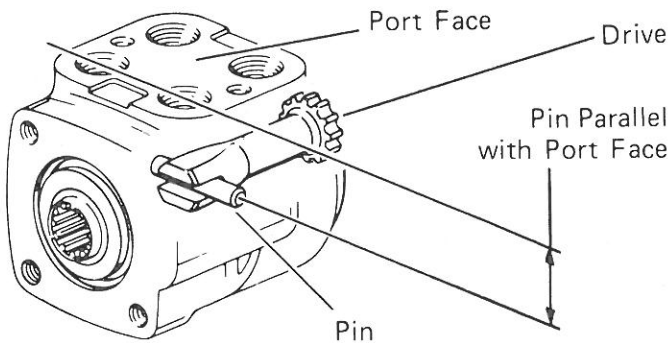
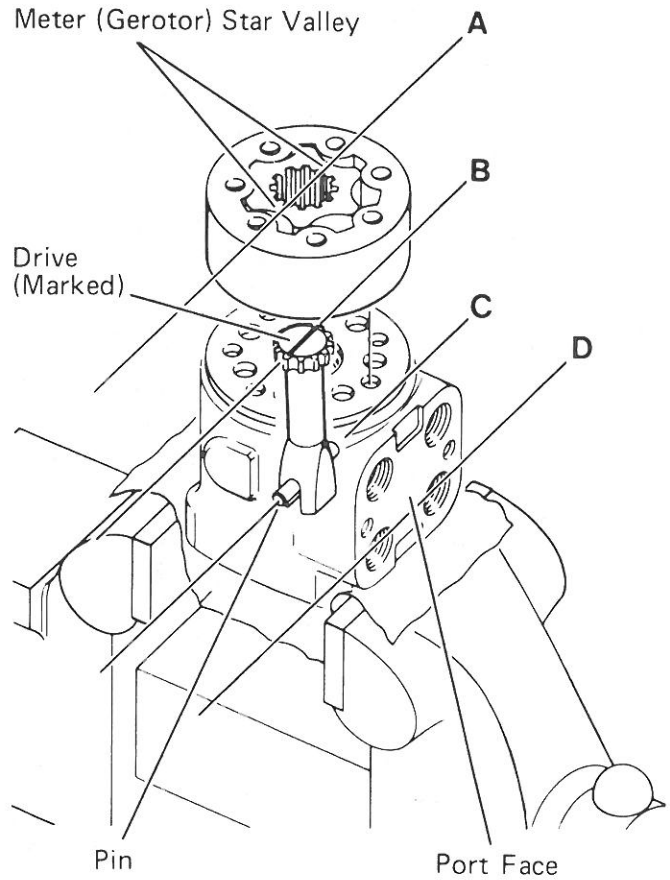

Figure 22
Figure 24
- 21 Rotate spool and sleeve assembly until pin is parallel with port face, see Fig. 22. Install drive, make sure you engage drive with pin. To assure proper alignment, mark drive as shown in Fig. 24 (ref. B). Note relationship between slotted end of drive to splined end of drive when marking.
- 23 With seal side of meter toward spacer plate, align star valleys (ref. A) on drive (ref. B). Note the parallel relationship of reference lines A, B, C, and D— Fig. 24. Align bolt holes without disengaging meter from drive.